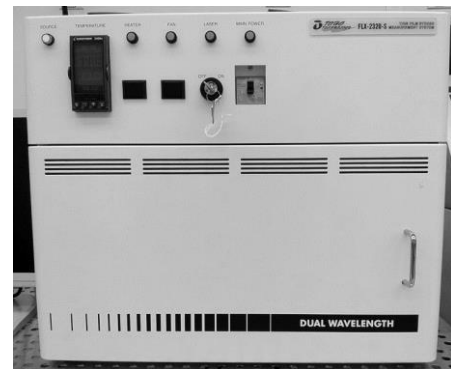

Figure 1. The front of the Toho FLX-2320-S
1. Turn **ON** the Main Power circuit breaker switch on the front of the tool, Figure 1.